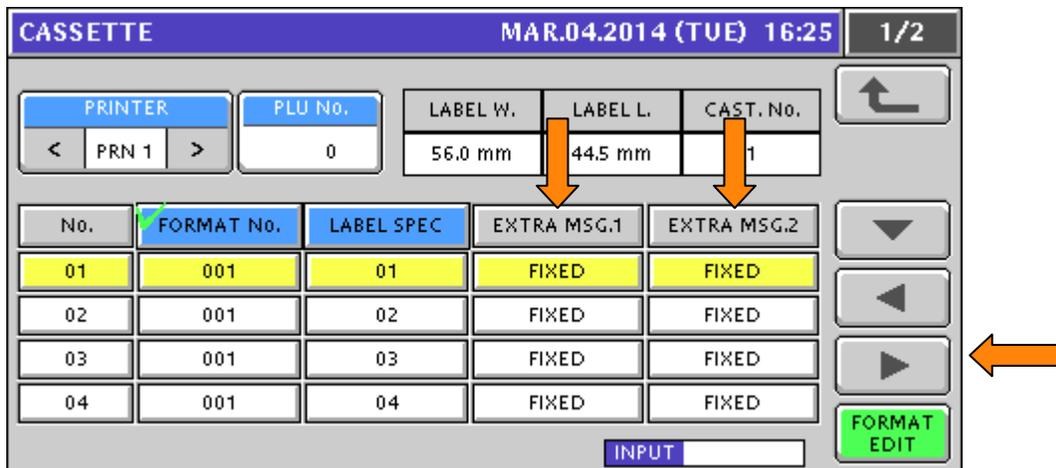

Figure 7.7. Label Cassette Setup: Extra Message 1 Type and Extra Message 2 Type
24. Press the ► button to move to the next page. See Figure 7.7.